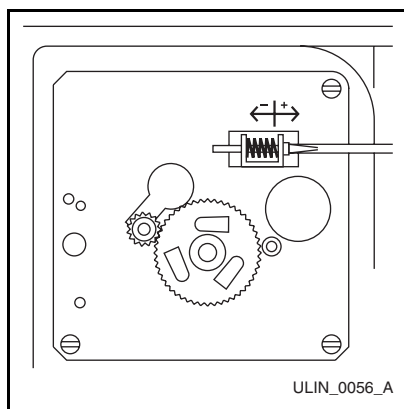

Figure 9
2. Locate the adjusting screw on the ice maker assembly control box. The adjusting screw is just below the minus (-) and plus (+) signs on the control box (**Figure 9**).